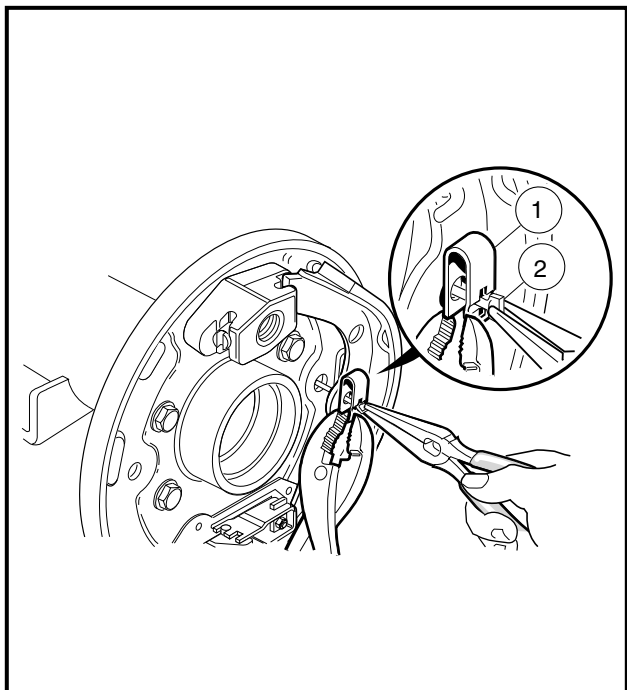

Figure 6-24 Retainer Clip
2. Install shoe retainer clip (1), using pliers to compress clip while turning clip retainer pin (2) into position (**Figure 6-24, Page 6-12**).